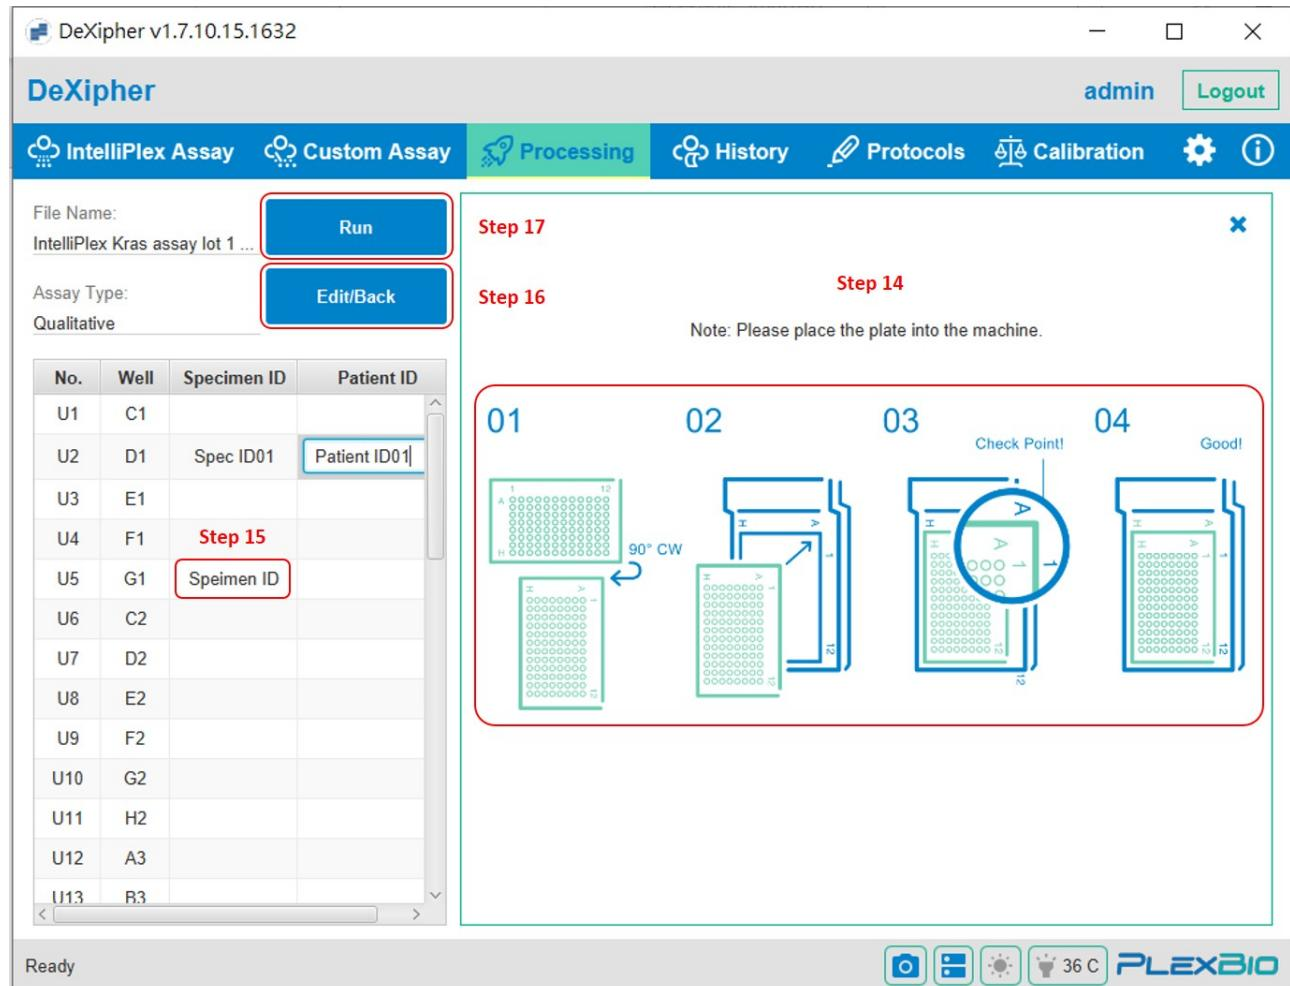

Fig. 15. IntelliPlex Assay - Processing
- Step 14. Follow the drawing in Fig. 15 to put the 96-well plate onto the stage (plate holder) with the correct orientation.